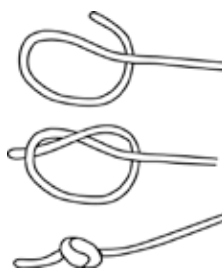

FIGURE 8: OVERHAND KNOT
8. Remove the yarn from the warping peg. Hold it tightly in your hand and with a pair of scissors cut the end of the loops. Tie the bundle of warp threads into a loose overhand knot (figure 8) and set aside.